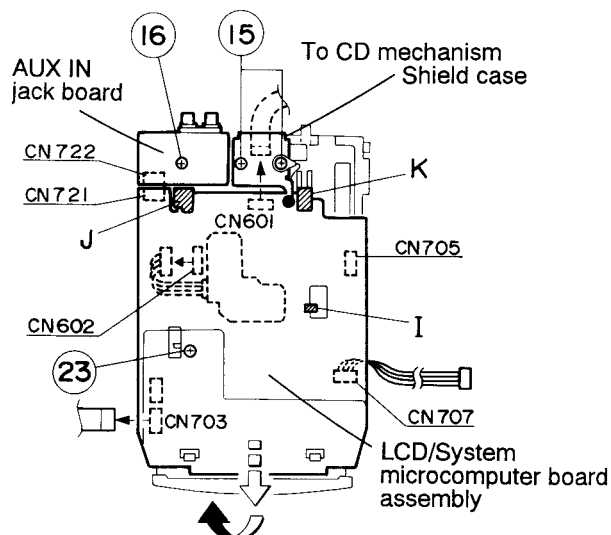

Fig. 5-16
### ◆ Removing the LCD/System microcomputer and AUX IN jack boards (Figs. 5-16 and 5-17).
1. Remove the soldered section of the shield case from the rear of the CD traverse mechanism and remove two screws ⑮ (Fig. 5-16).
2. Remove the screw ⑮ securing the AUX IN jack board. Then, remove connector CN722 from connector CN721 on the LCD/System microcomputer board (Fig. 5-16).
5. Release three claws (I, J, K) securing the LCD/System microcomputer board and shift and lift up the whole board toward you for removal (Fig. 5-16).